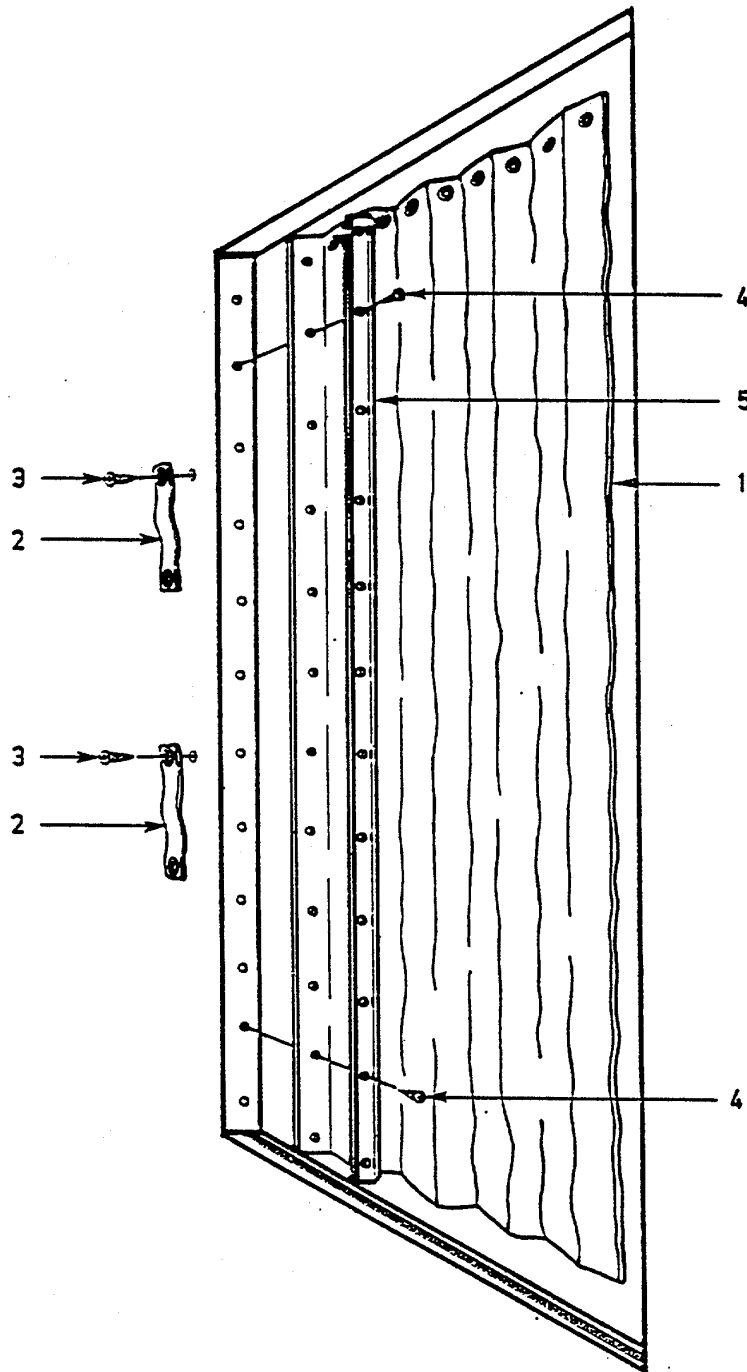
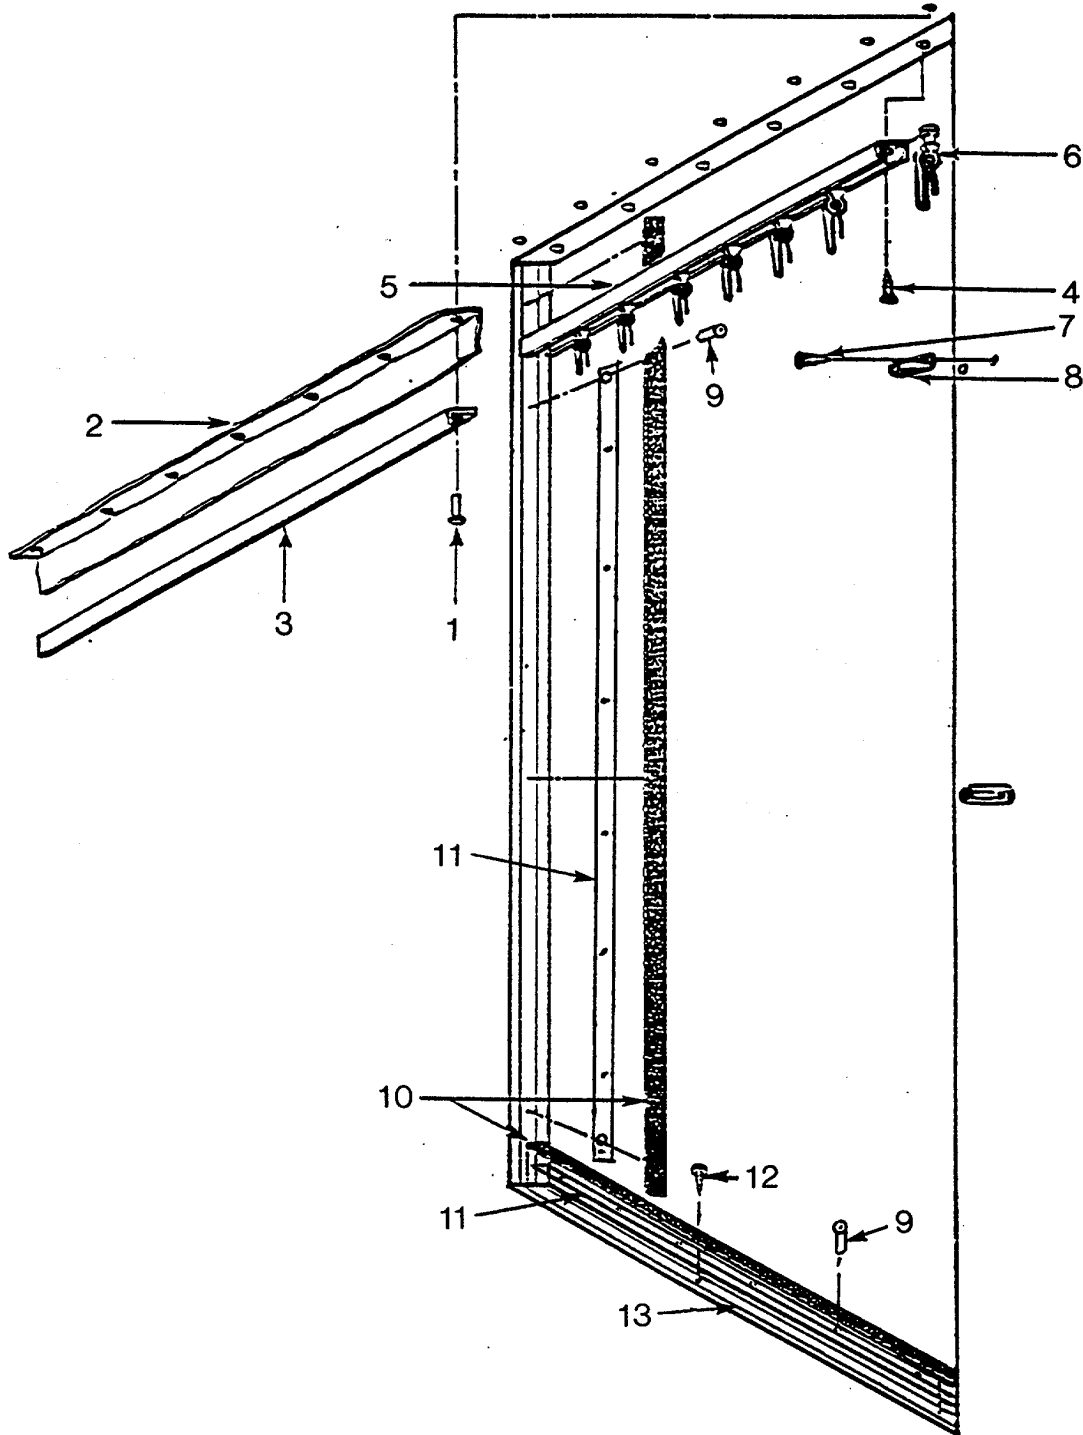
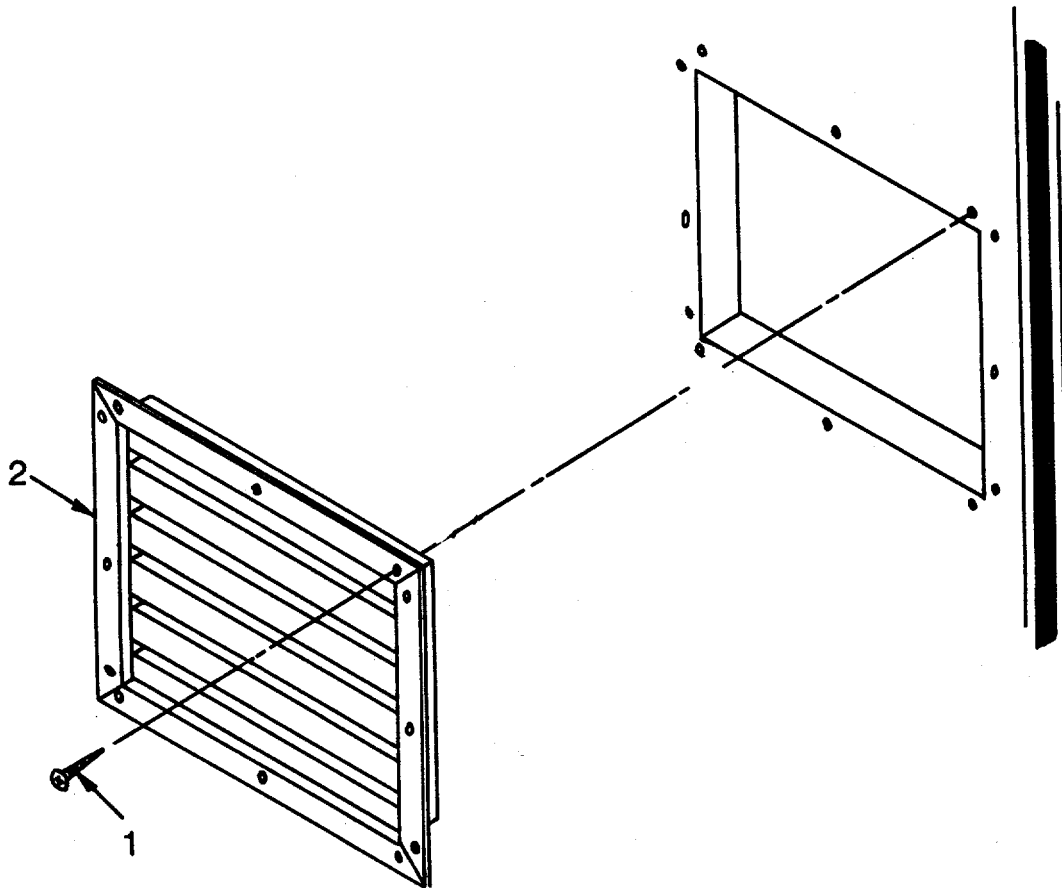

Figure 4-61. Wall Partition Assembly Curtain
Figure 4-62. Wall Partition Assembly Carrier
Figure 4-63. Louver Assembly Removal
4-47. **WALL PARTITION ASSEMBLY.** - Continueda. Inspect. (See Figures 4-61, 4-62, and 4-63.)
(1) Inspect darkroom doorway curtain (1) and valance (2, Figure 4-62) for holes and for damage that will allow light through.
(2) Check holdback straps (2, Figure 4-61) for damage.
(3) Inspect curtain hooks (6, Figure 4-62) for freedom of motion through track.
(4) Check curtain track (5) for secure mounting.
(5) Inspect wall partition louver assembly (2, Figure 4-63) for bends, holes, and any damage that will restrict air flow or allow light through.
(1) Disconnect holdback strap (2, Figure 4-61) from curtain (1).
(2) Remove screws (3) and holdback strap (2).
(3) Remove screws (4), metal strip (5), and curtain (1).
(4) Remove rivets (1, Figure 4-62) in darkroom doorway.
(5) Remove valance (2) and valance retaining strip (3) from darkroom doorway.
(6) Remove screws (4) and carrier (5) from darkroom doorway.
(7) Remove hooks (6) from darkroom doorway.
(8) Remove screws (7) and connectors (8) from darkroom doorway.
(9) Remove rivets (9), hook fastener tapes (10), and metal strips (11).
(10) Remove screws (12) and threshold (13).
(11) Remove screws (1, Figure 4-63) louver (2).
- (15) Install louver (2, Figure 4-63) and screws (1).
- (16) Install threshold (13, Figure 4-62) with screws (12).
- (17) Apply adhesive (4, Appendix E) to metal strips (11).
- (18) Install hook fastener tapes (10), metal strips (11), and rivets (9).
- (19) Install hooks (6), carrier (5), and screws (4) in darkroom doorway.
- (20) Install connectors (8) and screws (7) in darkroom doorway.
- (21) Install valance (2), valance retaining strap (3), and rivets (1) in darkroom doorway.
- (22) Install curtain (1, Figure 4-61), metal strip (5), and screws (4).
- (23) Install holdback strap (2) and screws (3).
- (24) Connect holdback strap (2) and curtain (1).